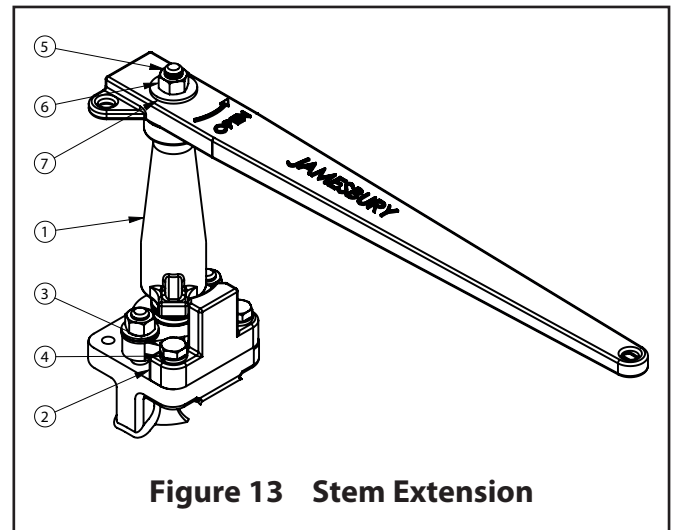

Figure 13 Stem Extension
2. Lower the handle stop (2) straight down in line with the valve stem until it is flat on the valve bonnet, and both mounting holes align with tapped holes on the valve (see **Figure 13**). **NOTE:** The stop should be mounted rearward on the bonnet, between the stem and body pipeline flange. The curved side should be towards the stem.
3. Insert the stop screws (3) and lock washers (4) into the mounting holes and thread into the valve until finger tight only.
4. Screw threaded rod (5) into tapped hole on top of stem.
5. Aligning the slot in the stem extension (1) with drive on the stem, lower the stem extension straight down over the threaded rod (5) and in line with the valve stem until it is completely engaged. If the stem extension (1) interferes with the stop (2), move the stop slightly to remove interference. DO NOT rotate stem!
6. Aligning the slot in the handle with drive on the stem extension (1), lower the handle straight down over the threaded rod (5) and in line with the stem extension drive until it is completely engaged. **NOTE:** When looking down at the top of the valve, the cast lettering and “OPEN” arrow on the handle should be visible. If they are not visible the handle is installed upside down.
7. Install the washer (7) over the threaded rod onto the handle. Thread handle nut (6) onto threaded rod and tighten handle nut (6) to torque value listed in **Table 6**.
9. Rotate stop (2) until the stop contacts the side of the stem extension stop boss (1) (see **Figure 13**).